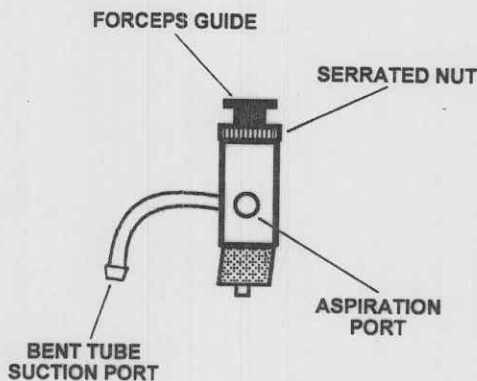

Figure 1-8. Automatic aspirator.
(7) *Automatic aspirator (fig 1-8).* The automatic aspirator provides a connector for an auxiliary suction apparatus, guides the biopsy forceps into the channel, and supports the introduction of medication or lavage into the channel.